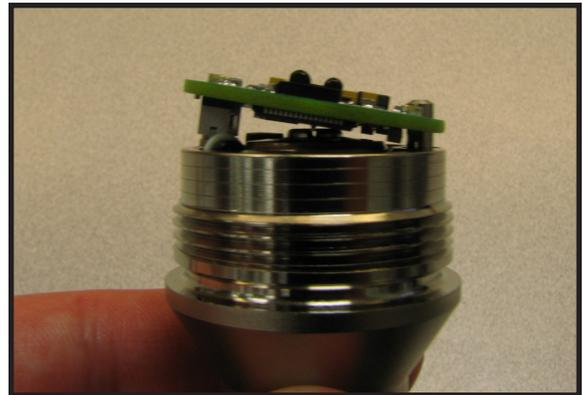

Figure 9: *Skewed Circuit Board on Post*
- 3.2) While pressing down on the board, tilt the side opposite the post up to create temporary tension to keep board in place. See Figure 9. The board should light up and beep when it touches the battery.